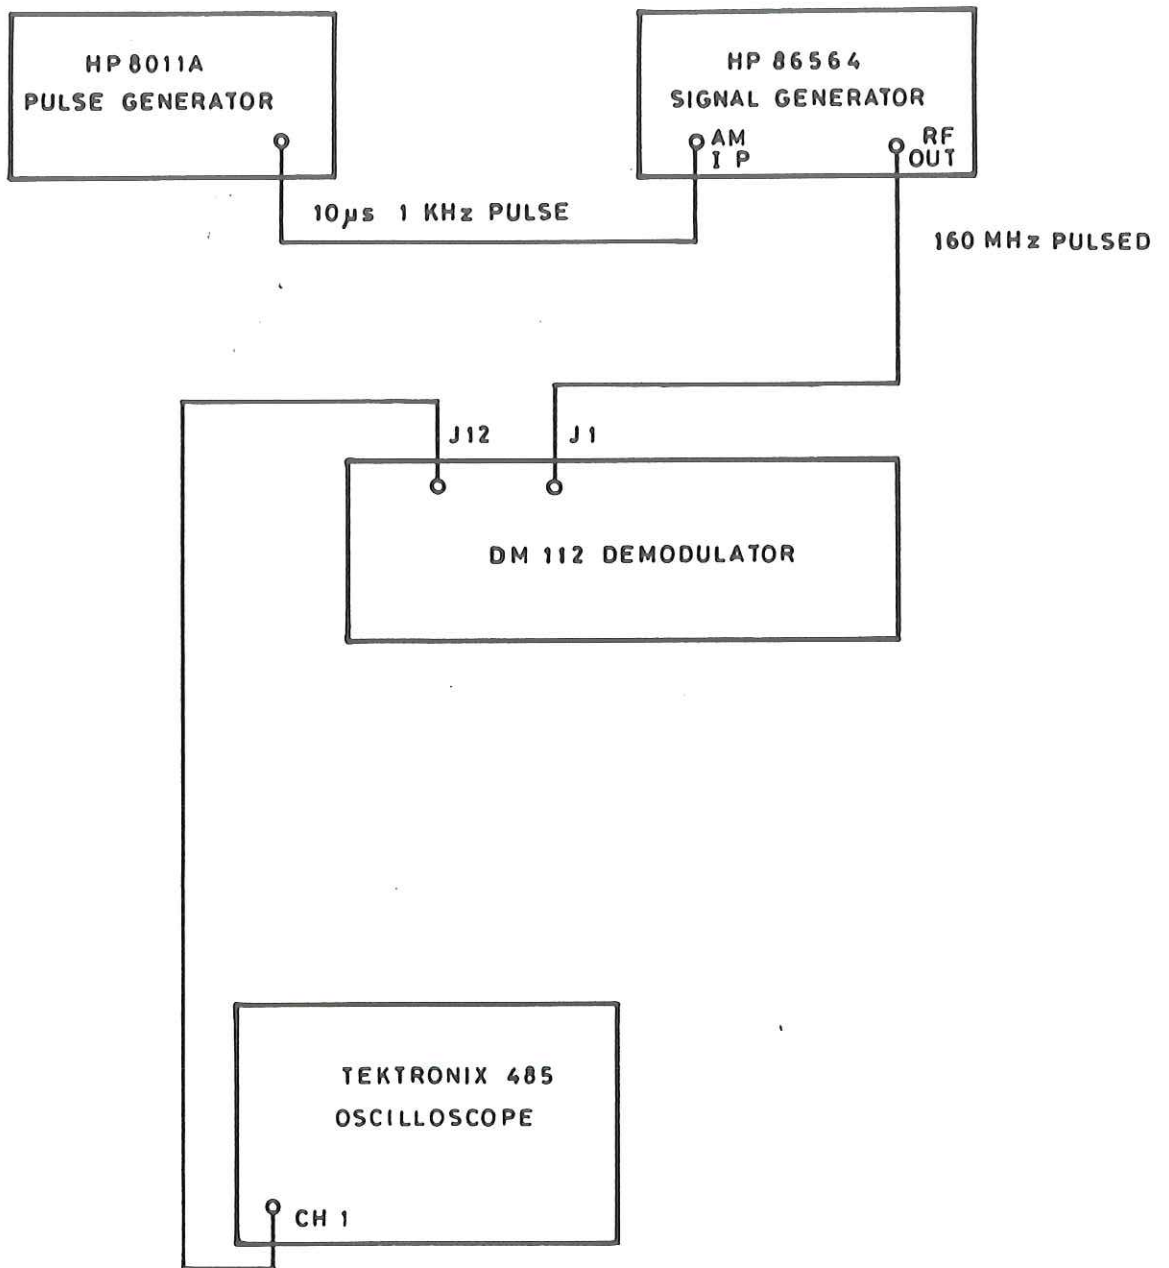

Fig 11 Test set-up for IF and video tests
56. IF Pre-Sets. Connect the test equipment as shown in Figure 11.